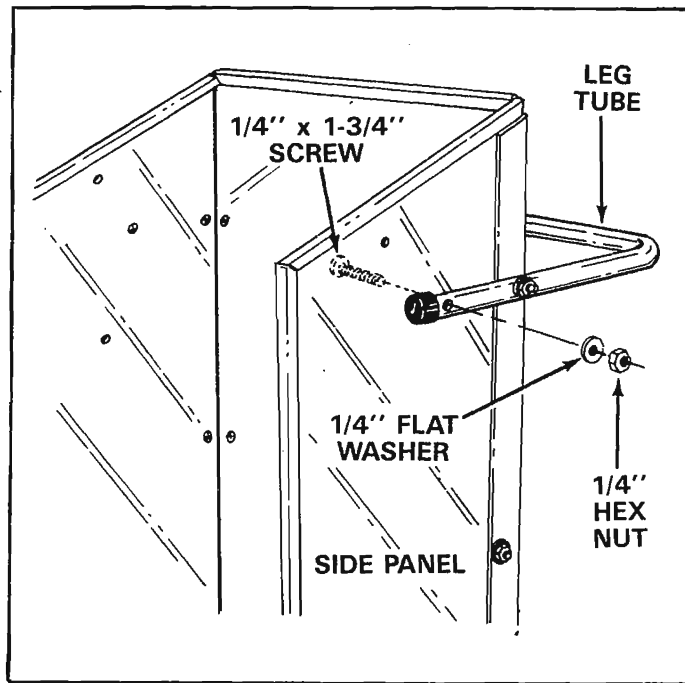
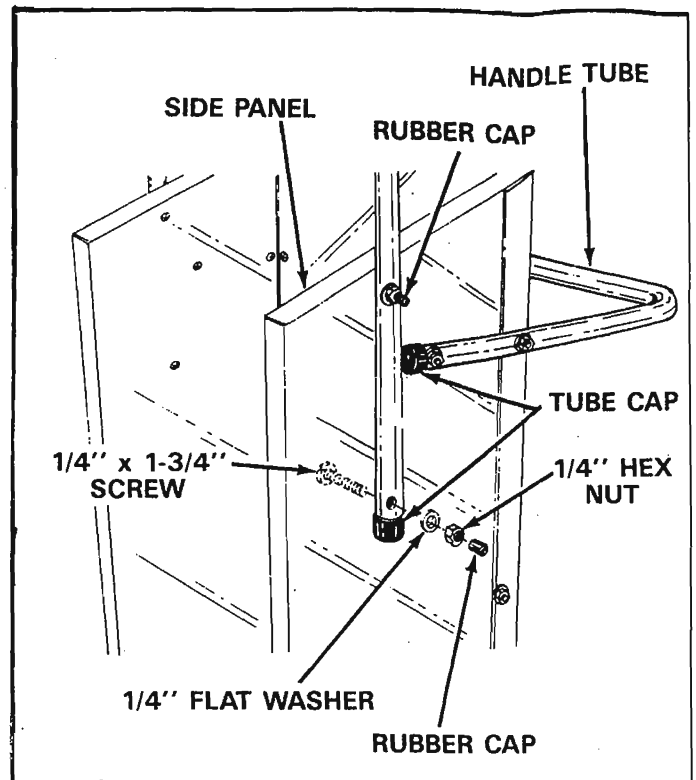

FIGURE 9
FIGURE 10
16. Place tube caps on leg tube and handle as shown in figure 10. Stand cart up on its front end again and assemble the leg tube as shown in figure 9 using four 1/4" x 1-3/4" truss head screws through side panels and leg tube. Secure with flat washers and hex nuts. See figure 9.
18. Place the handle tube over the side panels and line up the four holes. Assemble four 1/4" x 1-3/4" truss head screws through the side panels and handle. Secure with flat washers, hex nuts and cover threads with rubber caps. See figure 10.